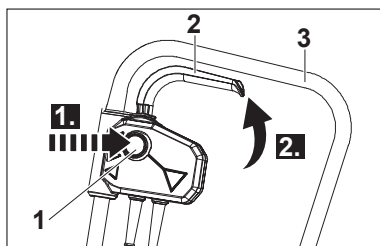

Fig. 9
1. Press the lock-off button (1) and hold it in position (Fig. 9, step 1).
2. Squeeze the on/off switch (2) to switch the product on (Fig. 9, step 2), release the lock-off button (1) afterwards.
3. Release the on/off switch (2) to switch the product off.